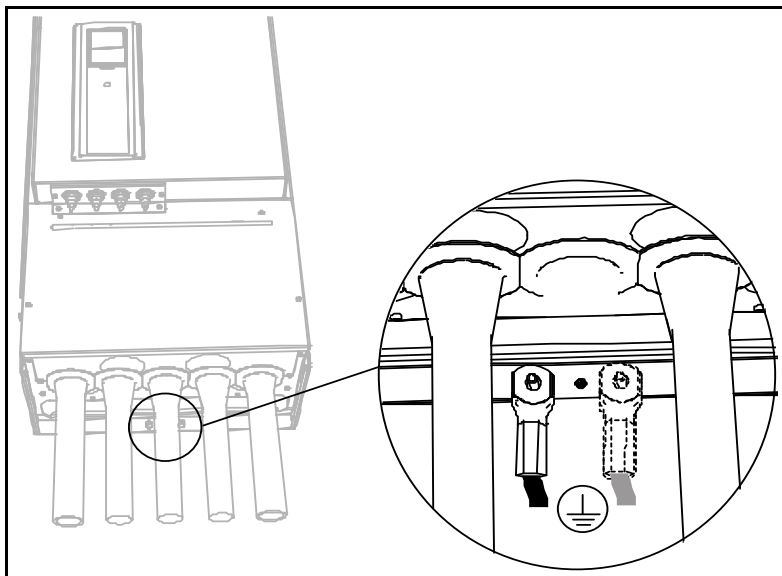

Figure 39.
**NOTE:** Two protective conductors are required according to standard EN61800-5-1. See chapter Earthing and earth fault protection. Connect the protective conductor using a cable shoe and an M8 screw (included in the *Accessories bag*) on either of the screw connectors as advised in Figure 39.